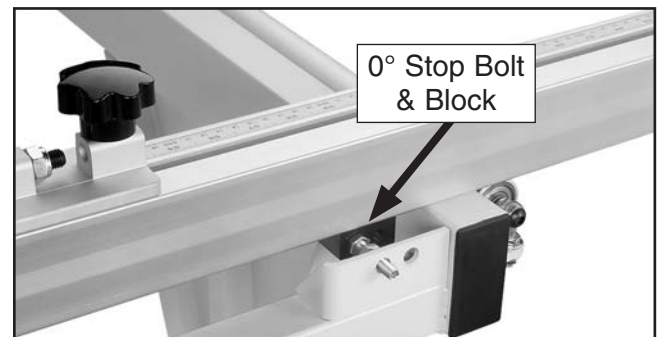

Figure 109. Stop block against 0° stop bolt.
1. Position crosscut fence on crosscut table, and rotate it until fence touches 0° stop bolt (**Figure 109**).